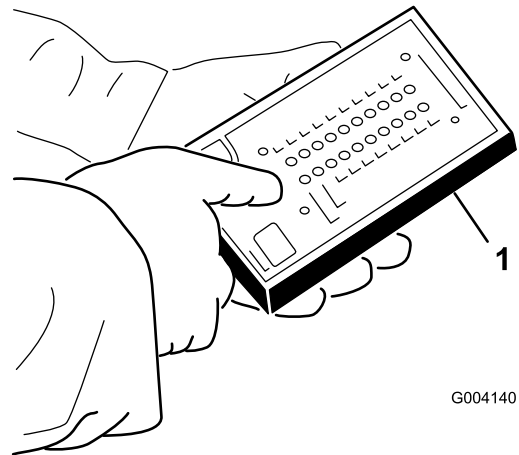

**Figure 49**
3. Locate the wire harness and connectors near the controller (Figure 49).